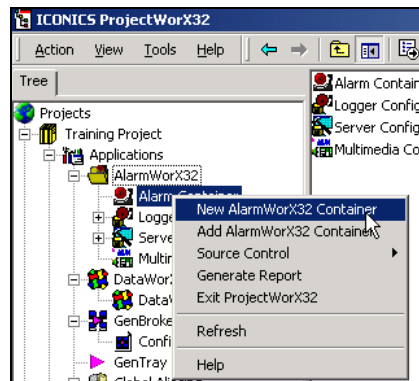

Figure 4.5
1. Right-click the desired component (e.g. Alarm Container) in the application tree (e.g. AlarmWorX32) in the ProjectWorX32 console and select New [File Type] (e.g. New AWX Container) from the pop-up menu, as shown in **Figure 4.5**.